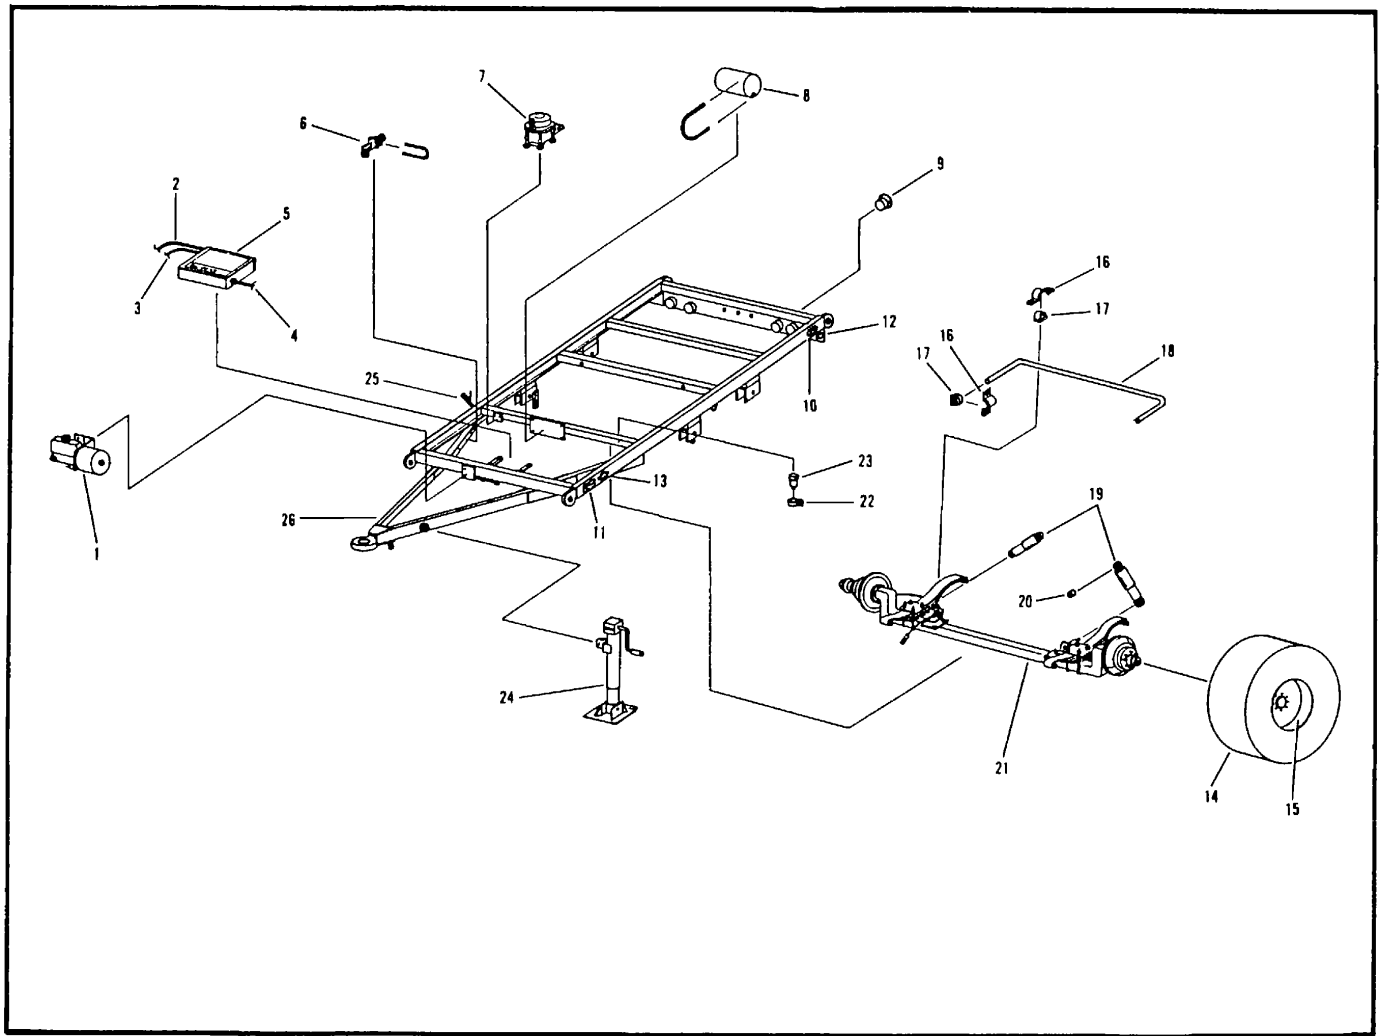

Figure 7-1. Trailer Assembly, Commercial
- (1) Using an adequate lifting device, lift trailer and place supports under trailer and place supports under trailer unit welded frame assembly.
- (2) Remove tires (14) figure 7-1) and rims (15) from axle assembly (21).
- (3) Remove shock (19, Figure 7-1) top mounting hardware, (locknut, spacers, washers and 5/8-11 bolt). Unscrew and remove bottom shock mounting hardware (1/2 locknut, washers, shock (19) from the axle shock mounting post (20, Figure 7-9).
- (4) Unscrew and remove sway bar (18, Figure 7-1) mounting hardware. Remove sway bar (18) with brackets (16) and bushing (17). Brackets (16) and bushing(17) need not be removed from the sway bar.
- (5) Unscrew and separate the parking brake pull cable (18) from the pull rods. Unscrew and remove brake cable from the axle beam mounting post.
- (10) Insert shock (19, Figure 7-1) top mounting bolt with washer through top shock grommet. Place 5/8"X long spacer over mounting bolt. Insert mounting bolt through hole in crossmember into 5/8"X 1 1/2"spacer. At the same time, align shock (19) bottom mount with mounting stud on spring plate and install shock. Secure shock (19) top mounting bolt with 5/8 locknut. Add 1/2" washer to bottom mount and secure with 1/2" locknut.
- (11) Position swaybar (18, Figure 7-1) with brackets (16) and bushings (17) and attach to the swaybar mounting brackets with securing hardware.
- (12) Position tires (14, Figure 7-1) and rims (15) over mounting studs and secure with lugnuts.
- (13) Using an adequate lifting device, remove supports from underneath trailer frame.
- (14) Position towbar jack in the down position and secure, before lifting device is removed.
- (1) Release parking brake lever (25, Figure 7-1) to the off position. Unscrew jam nuts (1, Figure 7-12) from coupler (2)